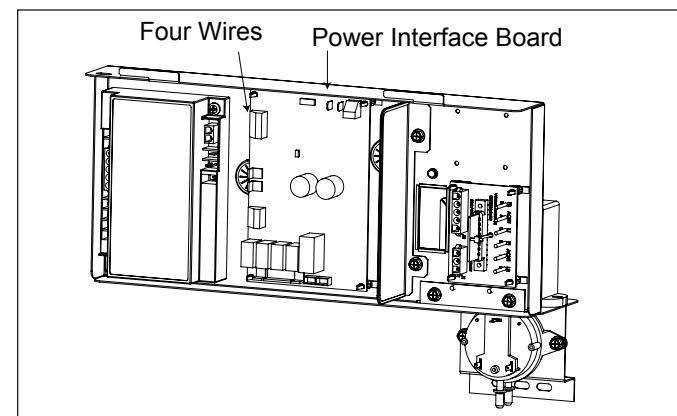

Figure 3. Control Panel
5. Disconnect the four wires of the universal controller from the power interface board. These wires (from top to bottom: Black, Orange, Blue and Red) are identified on the power interface board as "User Interface 1." The power interface board can be found on the control panel. See Figure 3.
18. Reconnect the four (4) wires (from top to bottom: Black, Orange, Blue, and Red) of the universal controller to the power interface board. The wires are identified on the power interface board as "User Interface 1." The power interface board can be found on the control panel. See Figure 3.